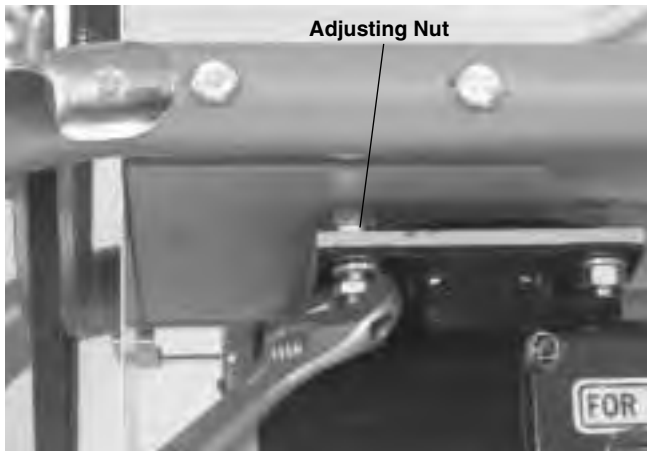

Figure 15 – Adjusting V-Belt Tension
2. Loosen locknut, turn adjusting bolt slowly until V-Belt stiffens, tighten locknut. (Figure 15).